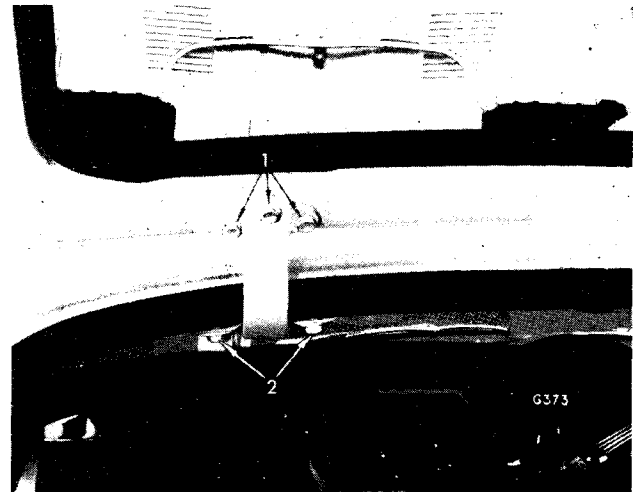

Fig. 46. Tailgate hinge
Support the tailgate and remove six bolts (1) (Fig. 46).
Remove eight bolts (2) (Fig. 46) and lift out the hinge.